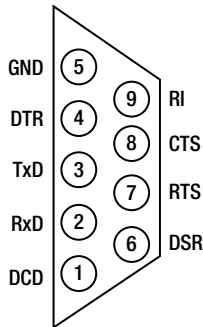

Figure 9-6. The pin out of a DB-9 shell
- Start off by taking P1-08 (TX) to pin 11 on the MAX3232 (T1IN). Then connect P1-10 (RX) to pin 12 (R1OUT) on the MAX3232.
- Connect pin 13 (R1IN) on the MAX3232 to pin 3 (TX) on your DB-9 shell and connect pin 14 (T1OUT) from the MAX3232 to pin 2 (RX) on the DB-9 shell.
- Lastly connect the hook-up wire from anywhere on the ground rail on the breadboard and connect it to pin 5 (GND) on the DB-9 shell. Take a look at Figure 9-6 if you need help with the pin out from the DB-9 shell.